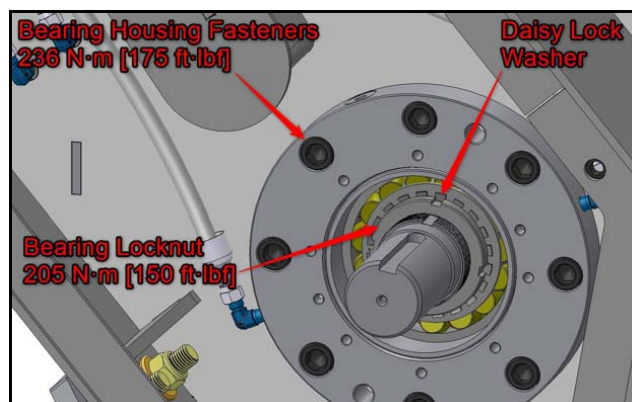

Figure 22
4. Insert the inner and outer bearing spacer and bearing as shown in **[Figure 22]**.